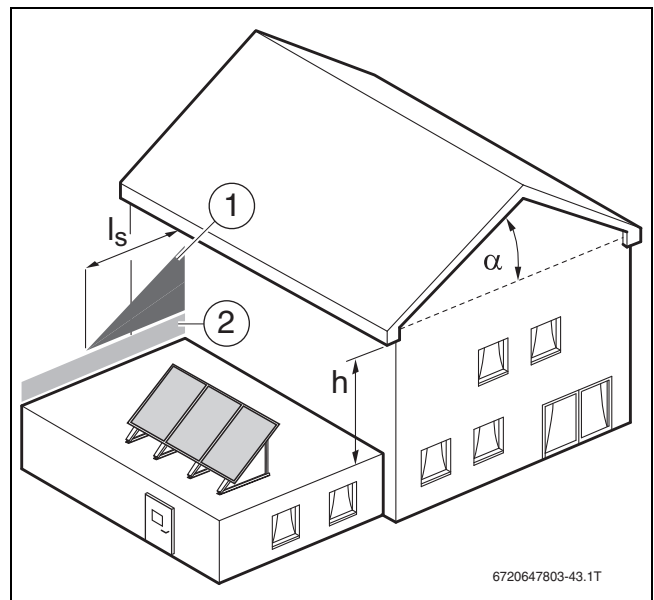

Fig. 12 Avoid installation below a height differential
- Prevent height differentials (→ Fig. 12).
Where there are height differentials in the roof, snow loads must be prevented from sliding down from a roof slope of $\alpha > 15^\circ$. The length of the additional load through sliding snow loads results from the height differential (→ Fig. 12): $l_s = 2 \times h$